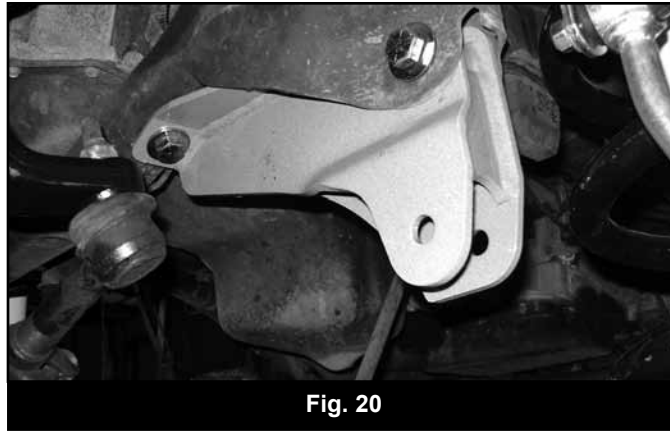

Fig. 20
51. Install new trackbar bracket with 9/16" (#609 03-07 model years), 5/8" (#642 08+ model years) through the original trackbar mounting hole. Attach the opposite end of the bracket to the frame crossmember with 9/16" x 3" bolt. (Fig 20)